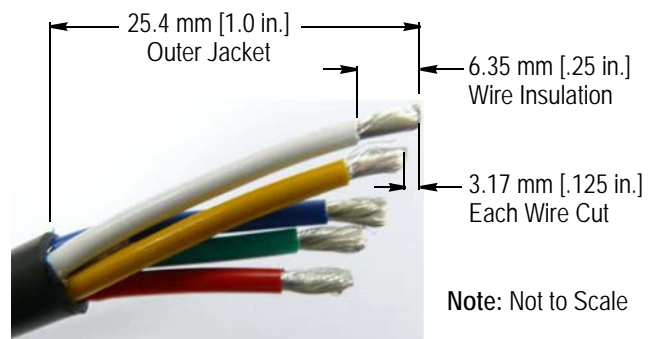

Figure 3
3. Refer to Figure 3, and prepare the cable as follows: